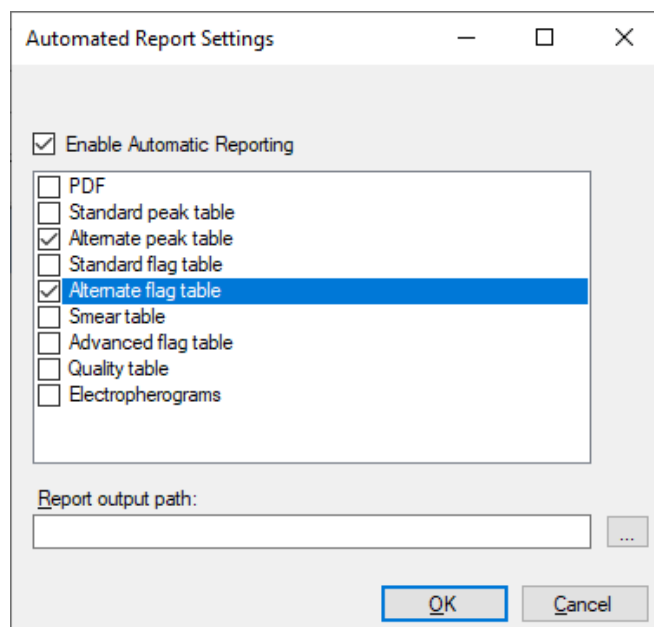

Figure 107 Automated Report Settings dialog
- 2 To enable automated analysis, select the **Enable Automatic Reporting** check box (**Figure 107**).